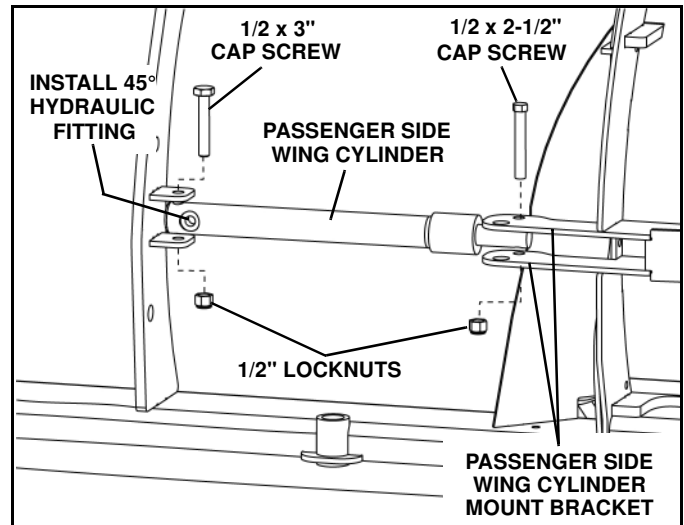

Figure 2-7
2. Position the base of one wing cylinder, with the hydraulic port facing the rear, on the passenger side of the blade. Install a 1/2" x 3" hex head cap screw and secure with a 1/2" locknut. (See Figure 2-7)
4. Install a 45 deg. hydraulic fitting into the cylinder port, point down and tighten securely. (See Figure 2-7).